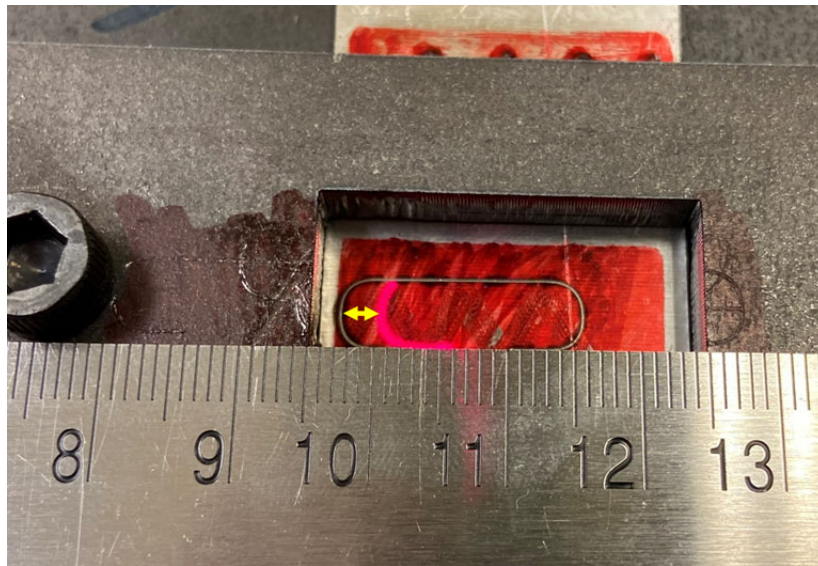

Figure 313: Measuring the Offset Distance between the Guide Laser Projection and the Laser Output Position
4. Measure the offset distance between the guide laser and the actual laser output. See Figure 313 (below).